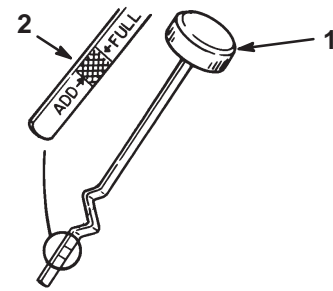

Figure 16
7. Clean around the oil dipstick (Fig. 16) so that dirt cannot fall into the fill hole and damage the engine.
8. Unscrew the oil dipstick and wipe the metal end clean (Fig. 16).
9. Place a pan below the oil drain plug and remove it (Fig. 16).
12. Slowly pour approximately 80% of the specified amount of oil into the fill hole (Fig. 16). Check the oil level; refer to steps 4 and 5 of Checking the Oil Level on page 22.